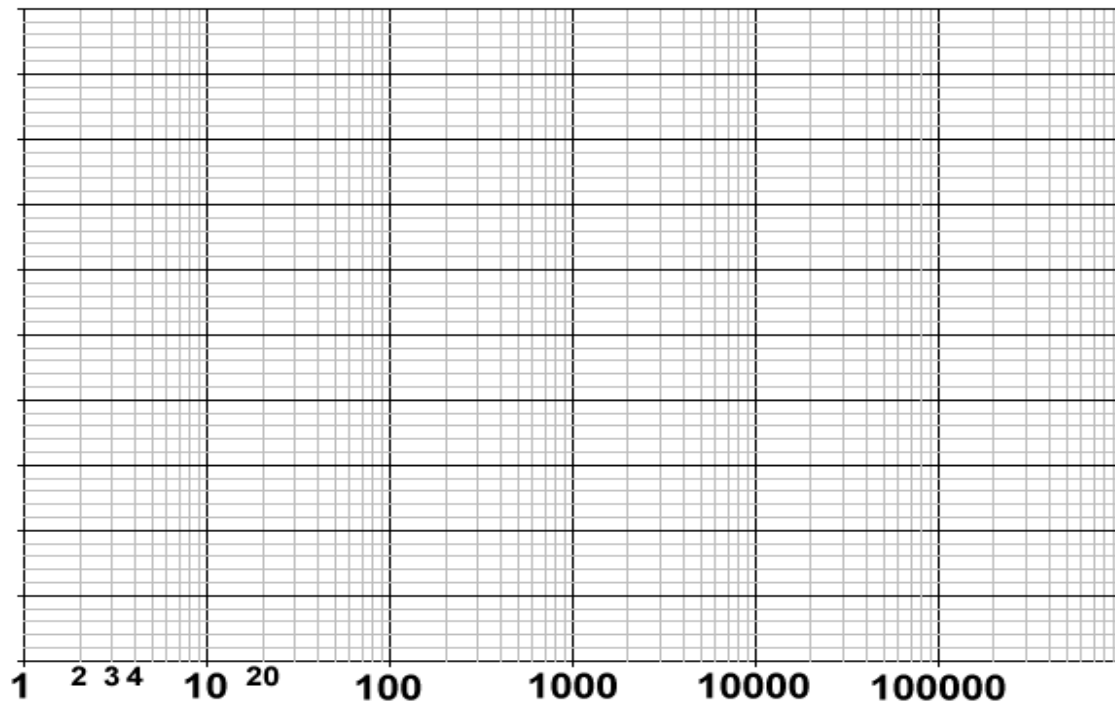
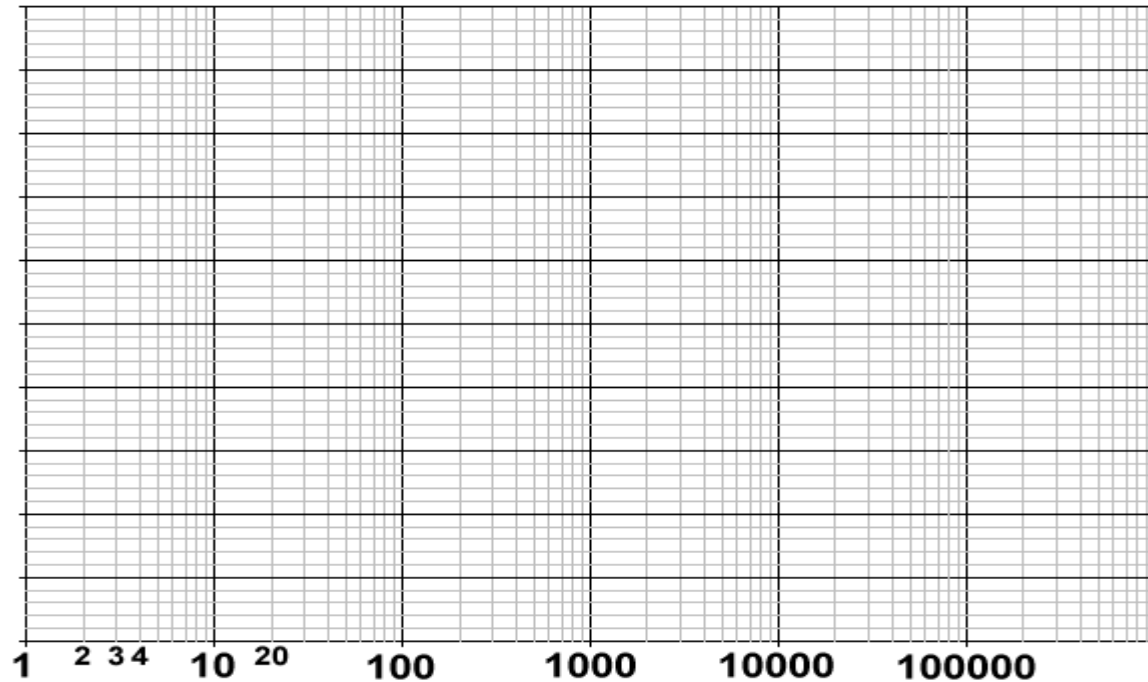

Figure6(Asymptotic bode plot of RC circuit)
Figure7(Asymptotic bode plot of RL circuit)
9. Using the transfer function found in step(8), draw the asymptotic Bode plots on given semi log paper in Figure 6 and Figure 7.